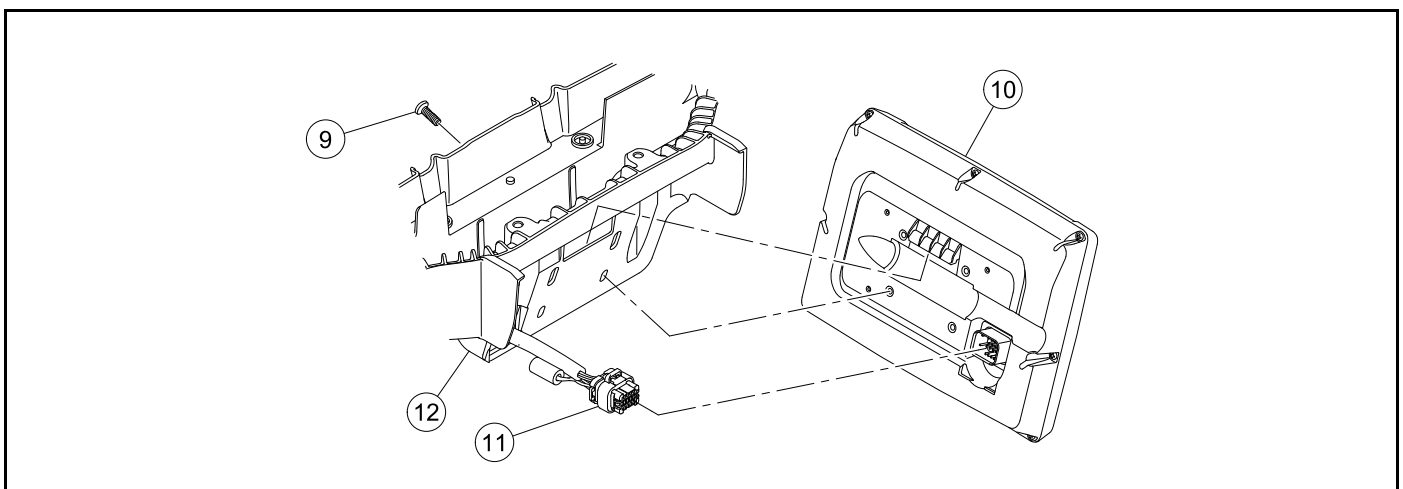

Figure 4-19 Visage Display Unit Removal
3. Remove the nuts (4), washer (5), and bolts (6) from each rear canopy support.
4. Remove the canopy (7).
5. Disconnect the canopy harness (8).
6. Remove the screws (9) (Figure 4-19, Page 4-23).